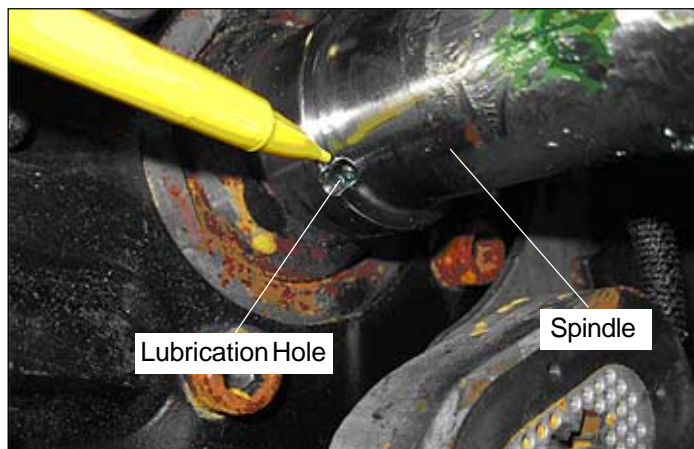

Figure 3 — Locating Lubrication Hole
7. Look for the lubrication cross drill hole on the shoulder of the spindle (refer to Figure 3).